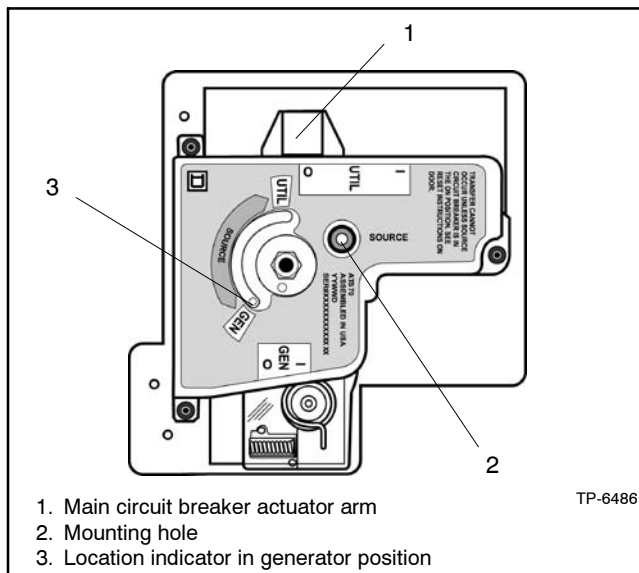

Figure 2-17 Transfer Mechanism
3. Check the position of the location indicator on the transfer mechanism. If it is not in the generator position (see Figure 2-17), refer to Section 6, Manual Operation, and manually set the transfer mechanism to the generator position.